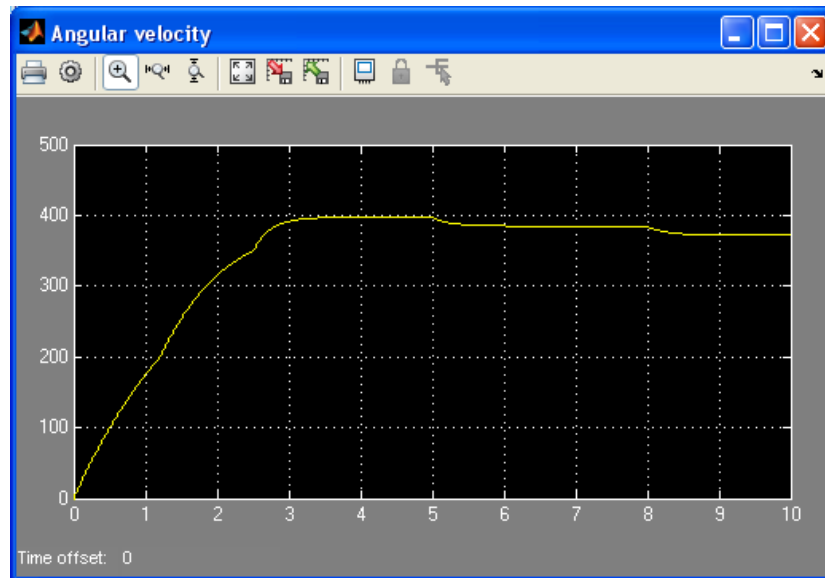
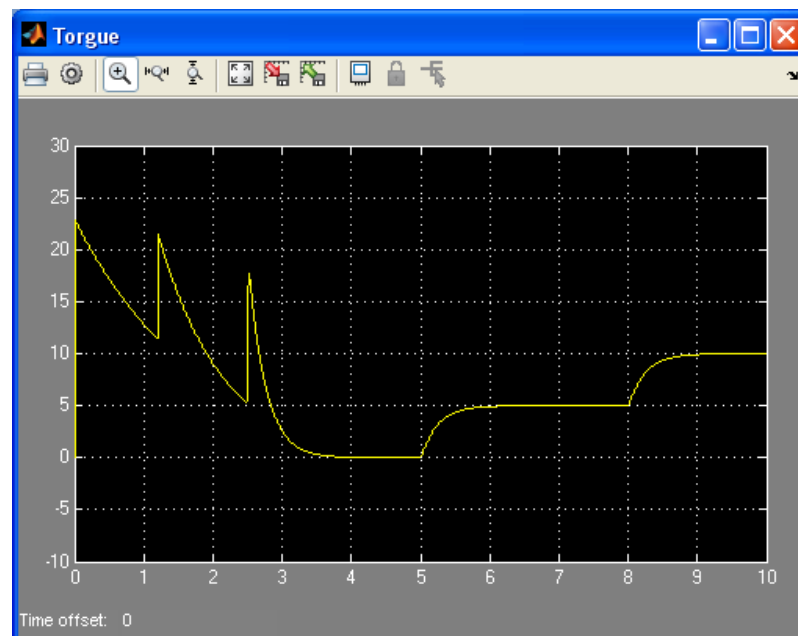

Figure 4.8. Angular velocity of the shaft
Figure 4.9. Driving torque
3. When simulation stops you can see plots like in Figure 4.8 and Figure 4.9.